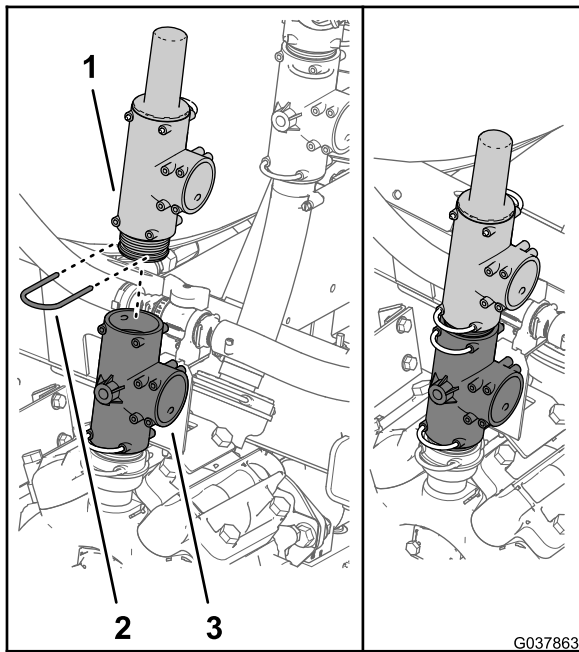

**Figure 66**
3. Remove the retainer that secures the T-fitting with the pressure-relief valve to the T-fitting in the top of the sprayer pump (Figure 66).
4. Remove the T-fitting with the pressure-relief valve from the T-fitting in the top of the sprayer pump (Figure 66).